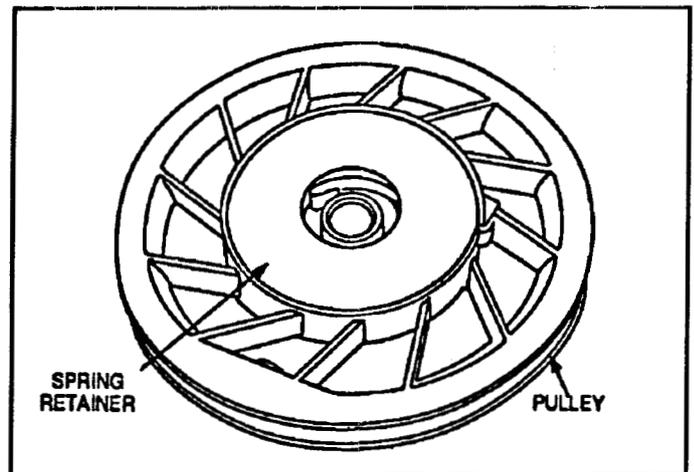

Figure 27
6. Remove the reel from the rewind housing. The rewind spring is captured in the reel and will not fall out or be suddenly released. The rewind spring is not serviceable. If the spring has failed, an entire spring and reel assembly must be used for repair. See Figure 27.